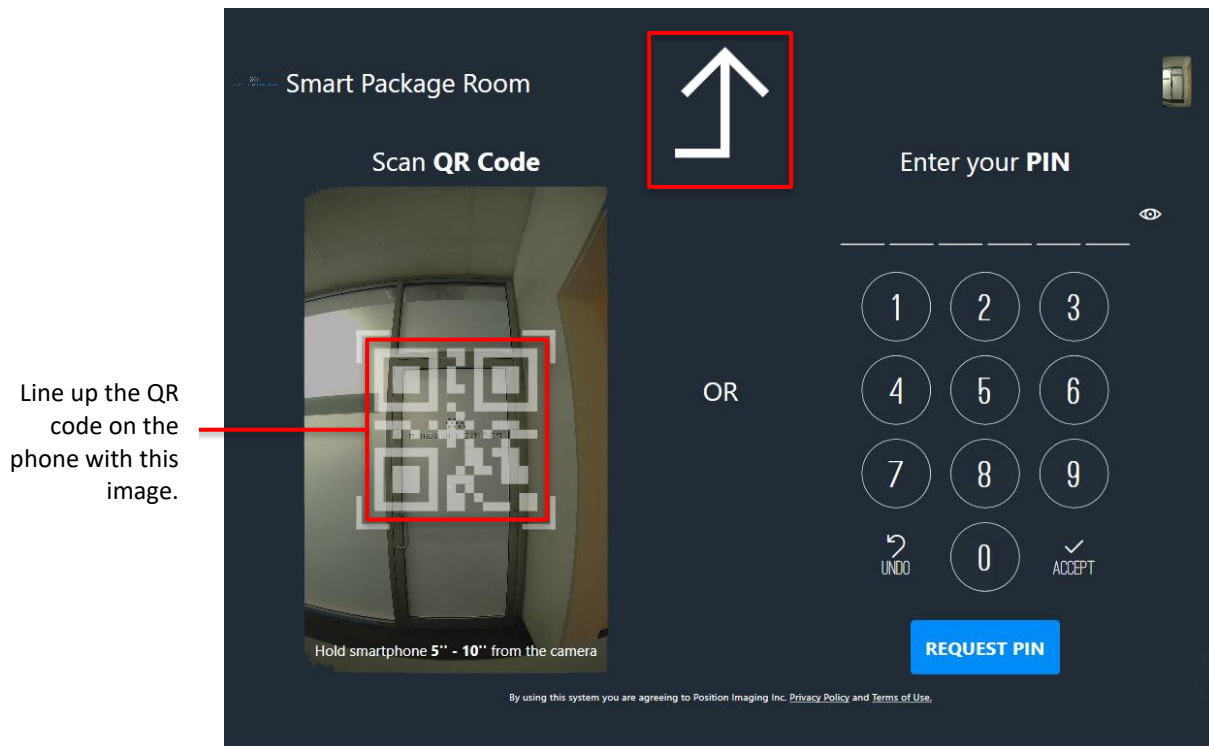
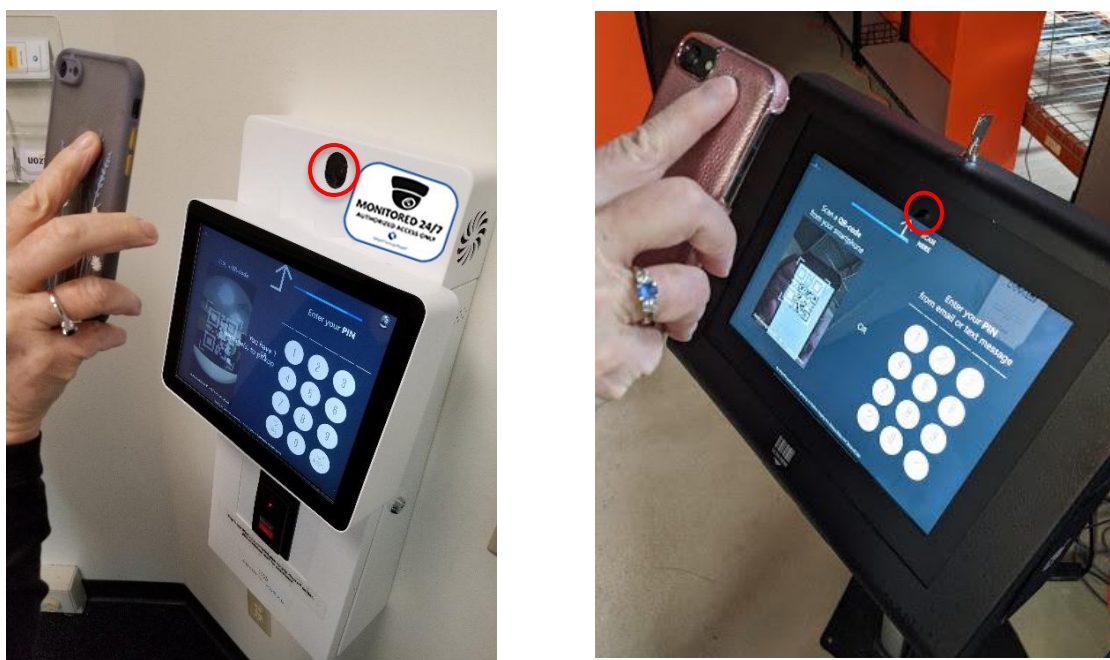

Figure 32: Location to scan QR Code
Figure 33: Scanning a QR Code with your phone
2. **Scan** your **QR Code** in the upper-middle of the kiosk screen (see arrow). Or enter the 6-digit PIN you received from the Email notification. Tap the **Eye icon** to show/hide your PIN. See Figure 32 and Figure 33.
2. **Scan** the **QR code** or **enter** the 6-digit **PIN** they received from the Email notification. See Figure 32 and Figure 33 in the previous section.